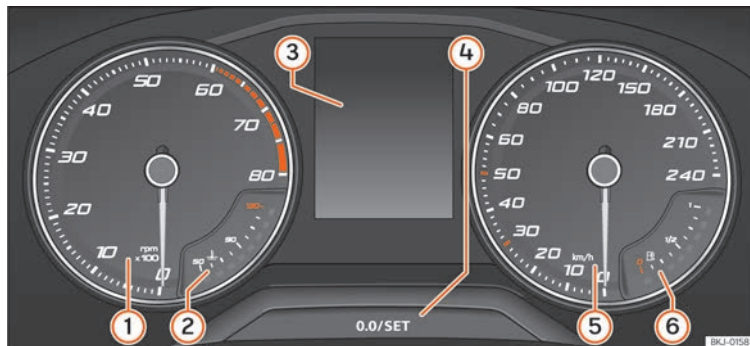

Fig.116 Instrument panel, on dash panel.
Details of the instruments » **Fig. 116:**
- Briefly press the button **0.0/SET** » **Fig. 116** ④ to reset the trip recorder to 0.
- Keep the button **0.0/SET** ④ pressed for about 3 seconds and the previous value will be displayed.